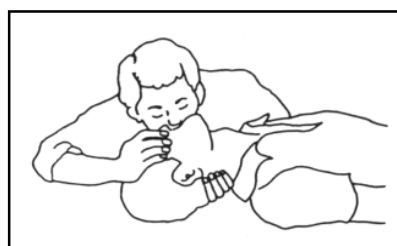

Figure 3-2
- if not breathing, begin artificial breathing (Figure 3-2): tilt head, pinch nostrils, make airtight seal, four quick full breaths. Remember mouth to mouth resuscitation must be commenced as soon as possible